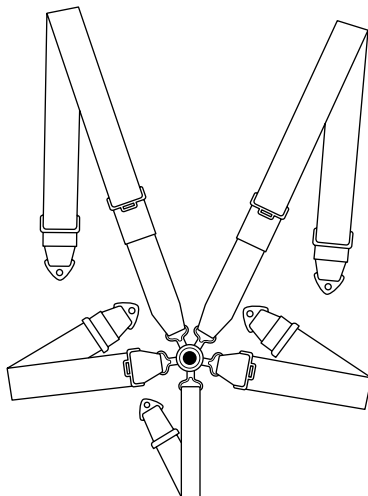

Figure 4-16:
- ✓ Five straps (as shown in Figure 4-16)